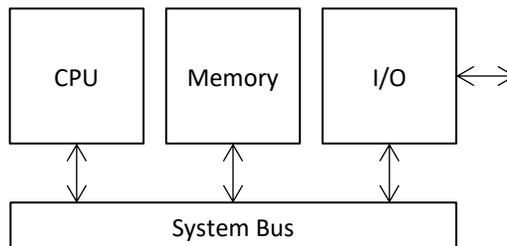

Fig. 1: Computer architecture
Any computer consists of the following components: central processing unit (CPU), memory, and input/output unit (see Fig. 1). The CPU, in turn, comprises an ALU and a control unit. The ALU performs data processing operations. The control unit ensures the operation of the whole system and controls all of its units (including the ALU). The CPU fetches instructions from the memory and executes them. The address of an instruction is supplied by a program counter (PC) that resides in the CPU. In our design, the 3-bit PC is implemented by a finite state machine (FSM), whereas the memory is simulated by a 3-to-8 decoder. The decoder outputs a 1-out-of-8 code that is interpreted as an operation code (opcode) of an instruction. The operands for an operation are supplied by the switches of the Altera board and student ID digits coming from the FSM that implements the PC. This project focuses on all components of a typical ALU.